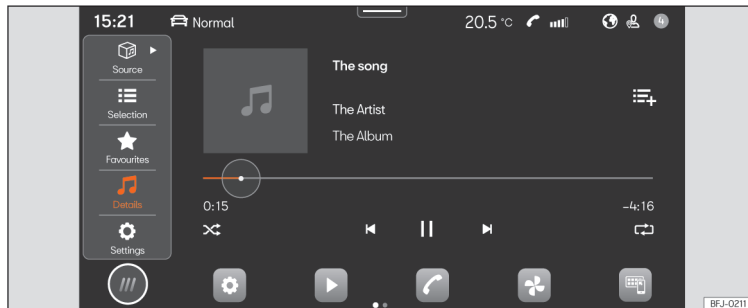

Fig. 160 Schematic diagram: Media view
- Press **HOME** > ► >>> **Fig. 160**.